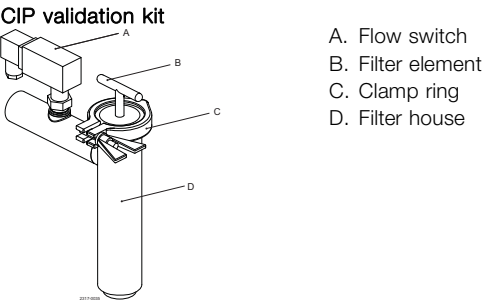

fig. 1
- CIP validation kit that enables monitoring of CIP flow to internal CIP nozzles - See fig. 1